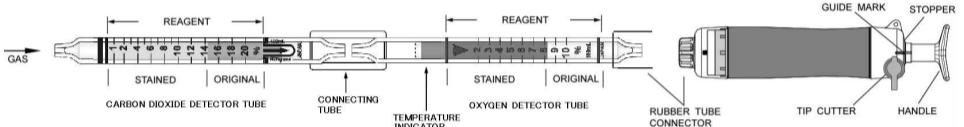

Fig. 1
- ② Break both ends of the detector tubes and connect each end of the detector tubes with connecting tube as shown in Fig.1.
- ③ Insert the end of the detector tubes into the aspirating pump securely as shown in Fig. 1. (Arrow marks shall point to the pump.)
- ④ Align the guide marks on the handle and stopper of the aspirating pump.
- ⑤ Pull the pump handle at a full stroke until it locks and wait for 8 minutes or until the completion of sampling is confirmed with the flow indicator of the pump. (See descriptions about the flow indicator in the instruction manual of the pump.)
- ⑥ On completion of sampling, read the scales at the maximum point of the stained layer.